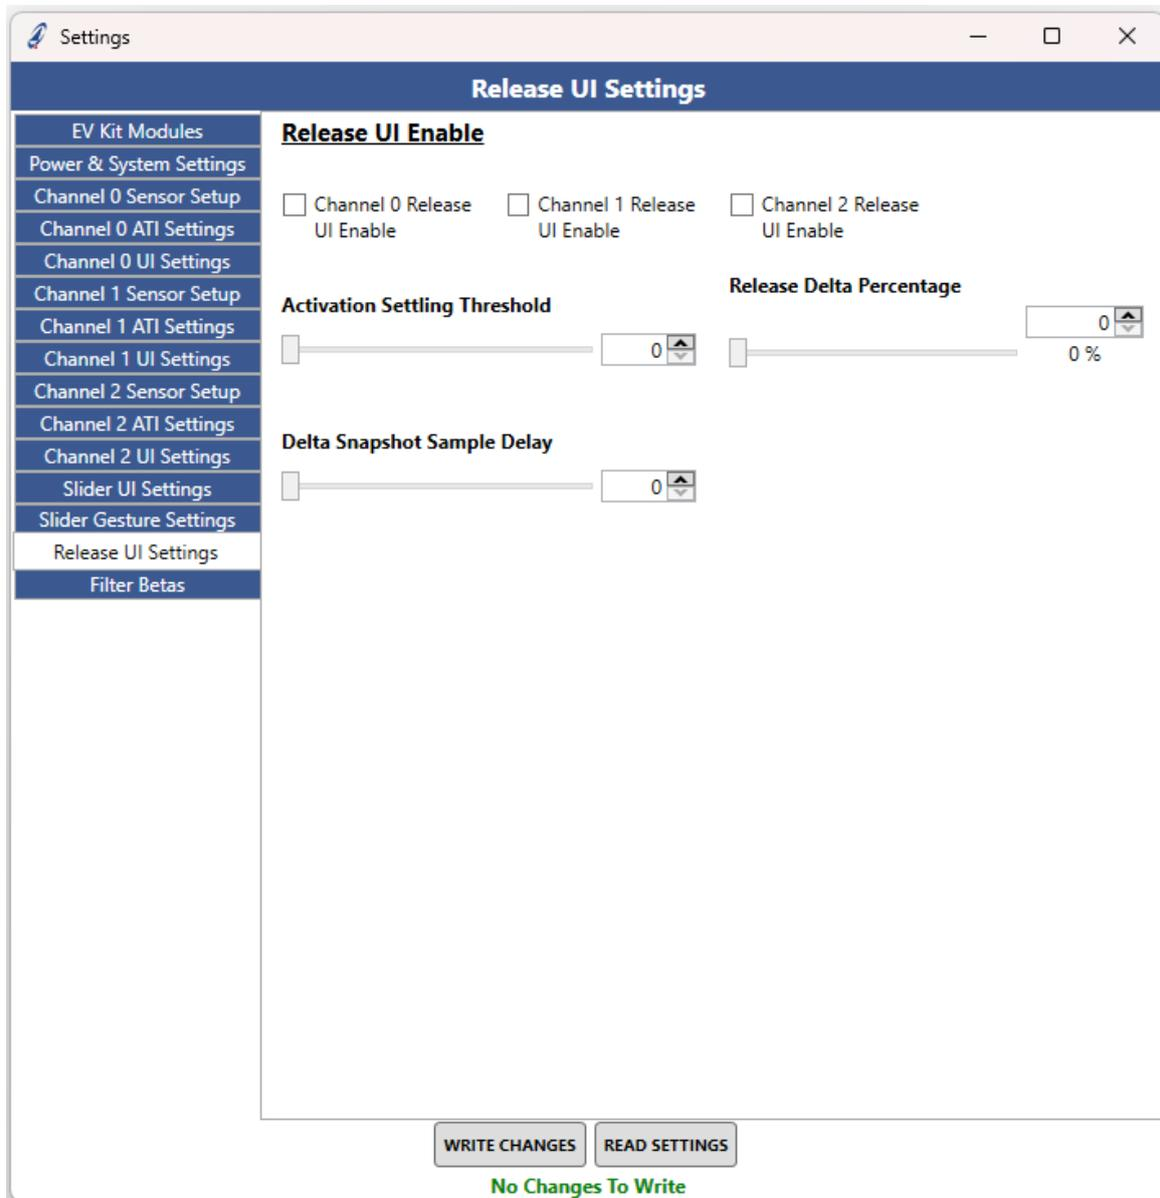

Figure 4.7: Release UI Settings
The “Release User Interface (UI) Settings” tab can be used to enable the release UI on different channels. Other settings such as the activation settling threshold, release delta percentage, and delta snapshot sample delay can also be configured as shown in Figure 4.7.